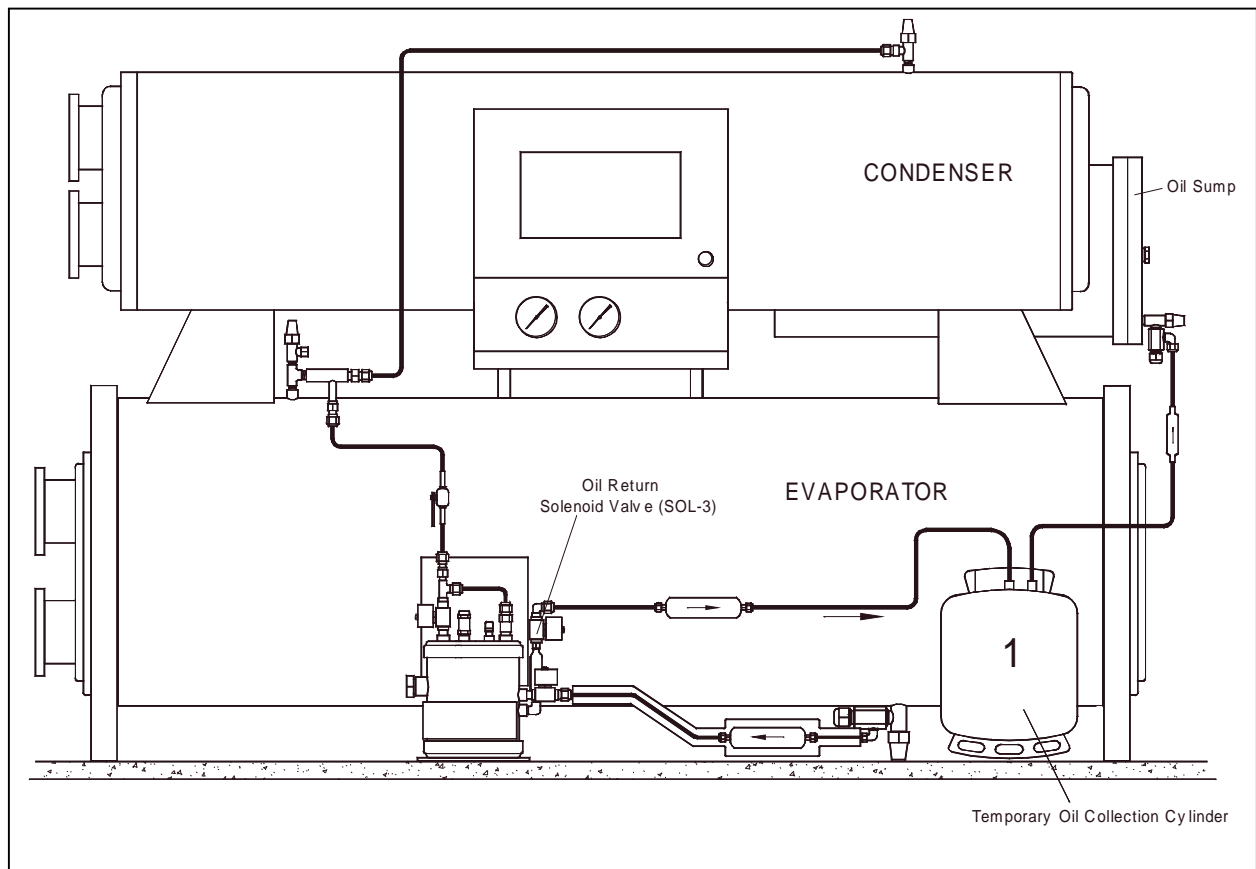

Figure 2 – CORRECT Optional Oil Collection Cylinder Hook-up
**WARNING:** The rated capacity of a refrigerant recovery cylinder is for refrigerant which is heavier than oil. Therefore a refrigerant recovery cylinder **will not** hold the same weight of Oil as the rated refrigerant capacity. **(See just below Figure 2 on page 18 approximate oil holding capacities of various size refrigerant recovery cylinders.)**
## OPTION 2 Piping Instructions (See Figure 2 page 18)
**Option (2)** is identical to **Option (1)** except you will temporarily install **ONE** containment vessel in the oil return line. The size of the containment vessel (determined by previous calculation) should be of sufficient capacity to collect and hold **all excess oil**.
1. Plumb excess oil containment vessel in the Oil-Return line as illustrated in **Figure 2 on page 18**. Remember to install the **check valve** and **Oil Filter-Drier** (provided in the OAM Purger Installation Kit) in the oil return line. Install the Check Valve between the containment vessel, and the oil sump as shown in **figure 2, on page 18**. (See warning on next page)
**CAUTION:** Option (2) is intended only as a temporary convenient method of dealing with excess oil. You **MUST** still occasionally monitor the oil sump for excessive oil accumulation since there may be more excess oil than anticipated. Refer to approximate oil holding capacities of the refrigerant recovery cylinders under Figure 2 on page 18.